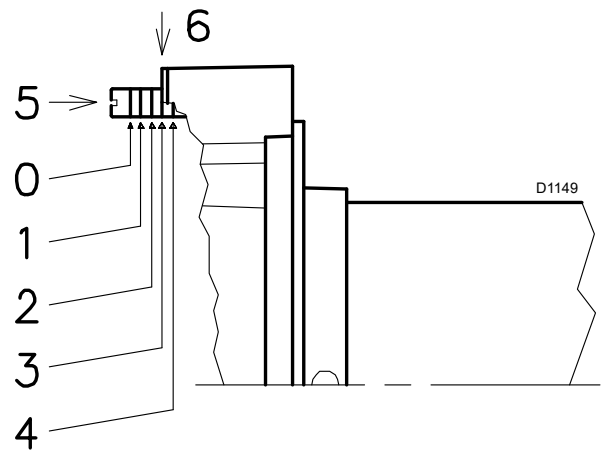
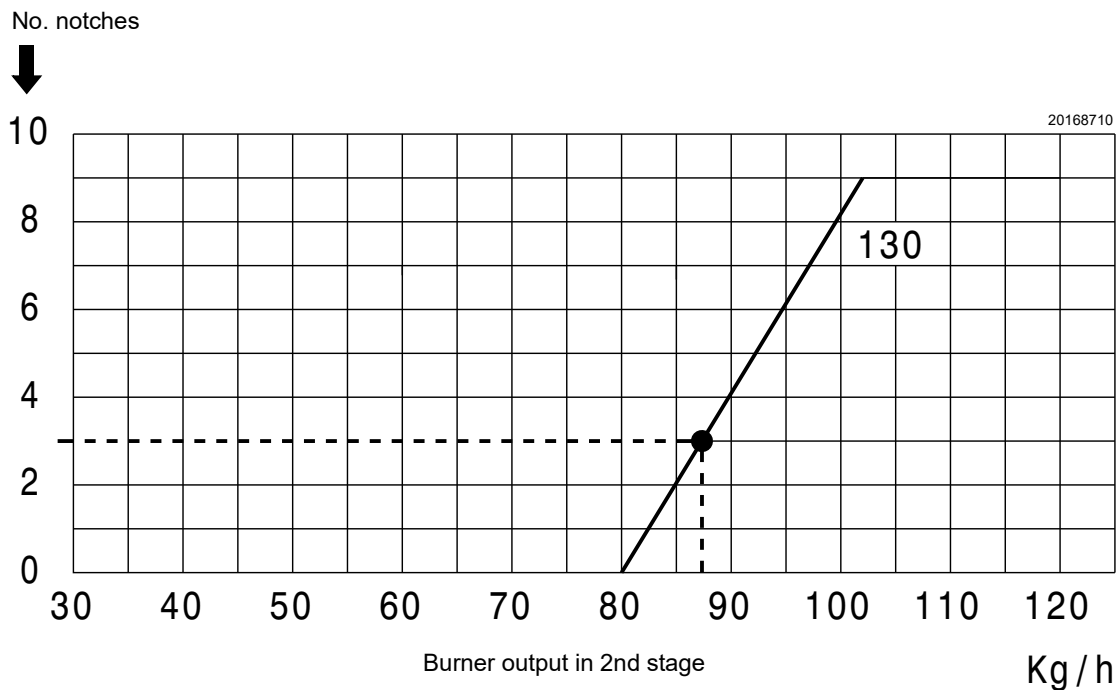

Fig. 18
Fig. 19
- Turn the screw 5)(Fig. 18) until the notch indicated by the diagram (Fig. 19) corresponds with the front part of the flange 6)(Fig. 18).
- The diagram (Fig. 19) shows that for this output, the adjustment of the combustion head is carried out on the notch 3, as in Fig. 18.